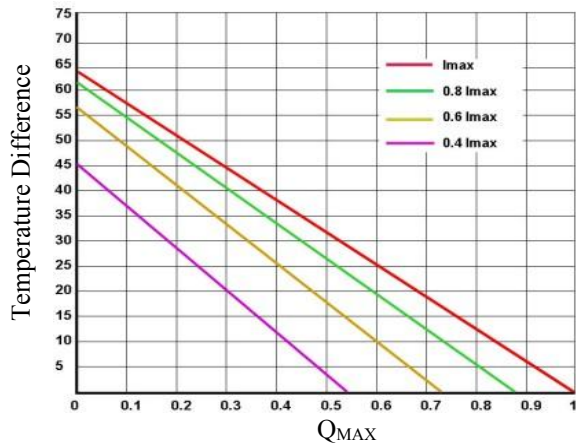
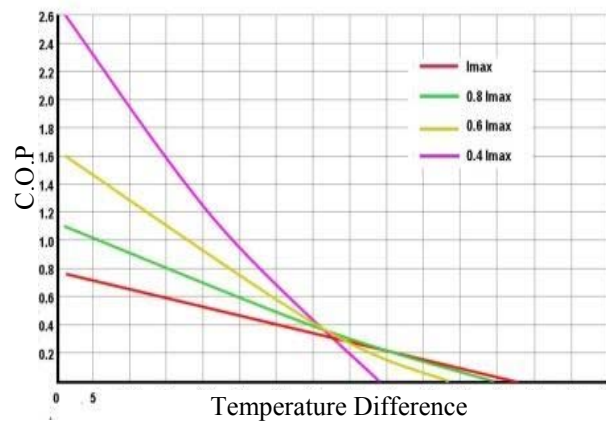
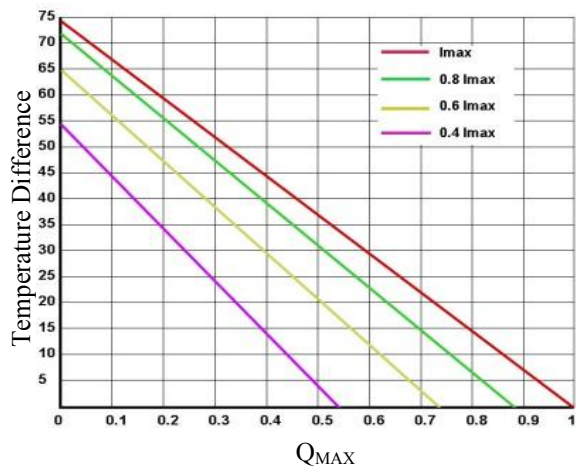
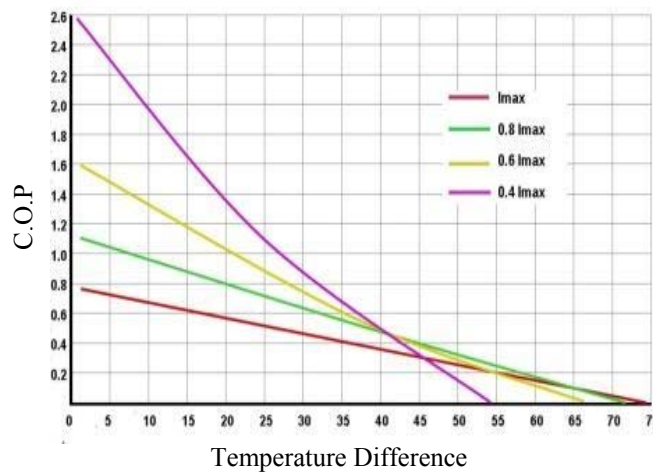

Figure 2. Temperature Difference vs.  $Q_{MAX}$
Figure 5. C.O.P vs. Temperature Difference
Figure 6. Temperature Difference vs.  $Q_{MAX}$
Figure 9. C.O.P vs. Temperature Difference
The ATE1-17 TECs come with 2 insulated lead wires. The positive wire is in red color, and the negative wire is of black. The mechanical dimensions are shown in Figure 6 and Table 1.
5. Use the charts provided in Figure 2 to Figure 5 and Figure 6 to Figure 9, to decide which TEC to use, what is